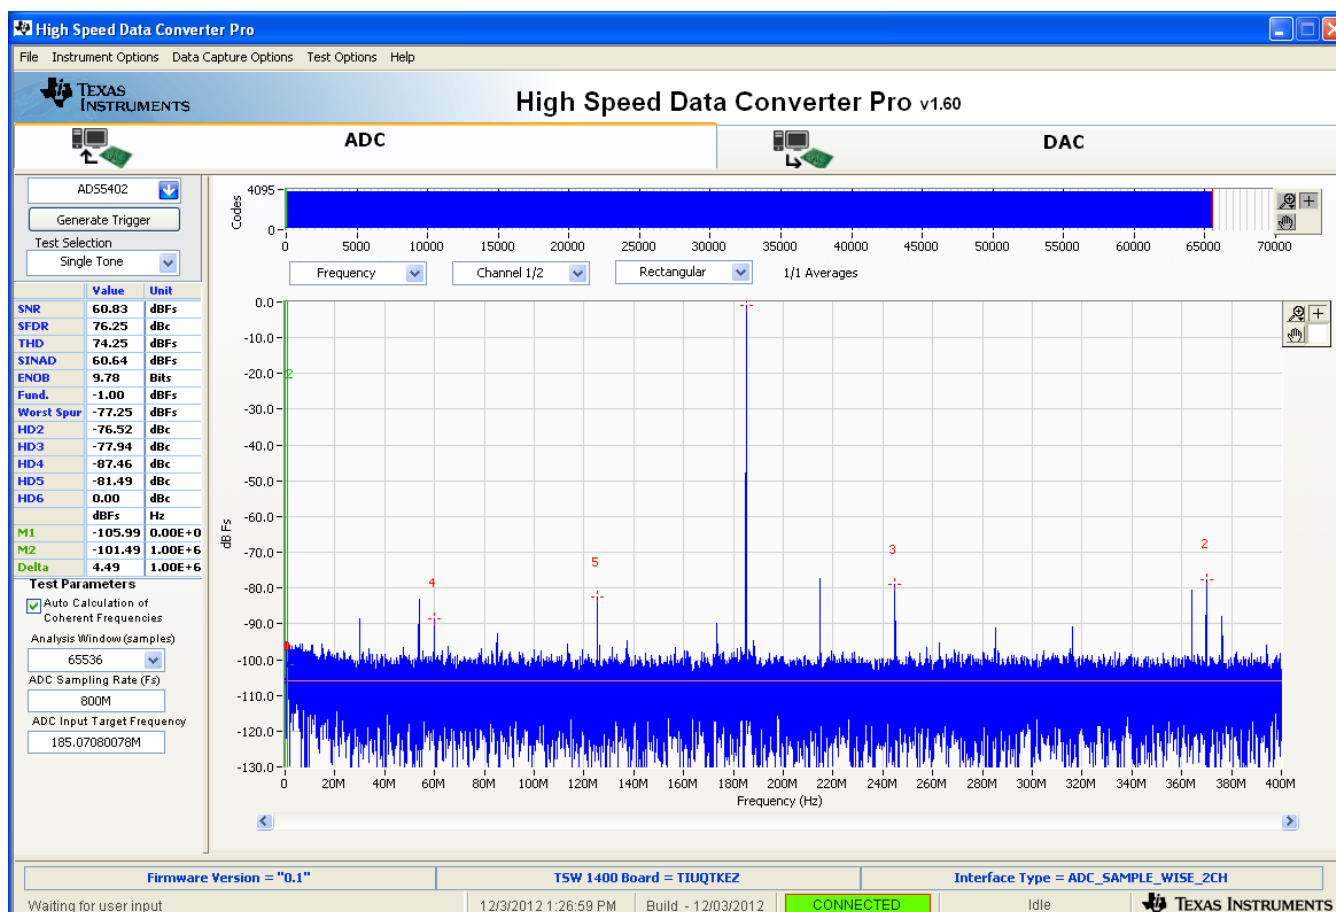

Figure 8. TSW1405 FFT Result
- Observe an FFT result similar to that of Figure 8.